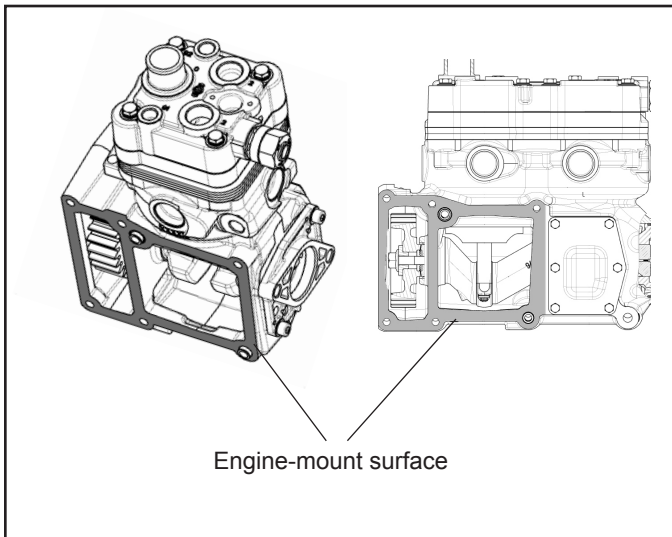

Figure 3 – Compressor – to – Engine Mounting Surface
Place a clean shop rag over the openings of the crankcase that expose the gear and crankshaft/connecting rod assembly (see *Figure 3*). No contamination is permitted in these areas. The serviceable items are identified by their "Item" numbers in the kit contents table and are also noted by the numbers in parenthesis in the following procedures.
1. Carefully remove all sealant gasket material adhering to the machined mounting face of the crankcase. See *Figure 3*. Make certain not to scratch or mar the mounting surface. Note: Keep the crankcase opening covered to prevent any of the sealant material from entering. Repeat this process on the engine mounting face as well. Follow the instructions contained in the vehicle maintenance manual in lieu of the instructions and procedures presented in this manual.
1. Install the o-ring (1) on the rear end cover.
3. Install the two end cover cap screws. See *Figure 3* to ensure that the two cap screws are installed in the proper crankcase bolt holes. “Snug” the screws, then tighten to 195 to 212 in-lbs (22-24 Nm).
1. Apply a liquid gasket sealant to the compressor / engine mounting interface (*Refer to Figure 3 for compressor mounting face*). Follow the Engine or Vehicle Manufacturer's guidelines for the proper liquid gasket sealant material and application procedure.